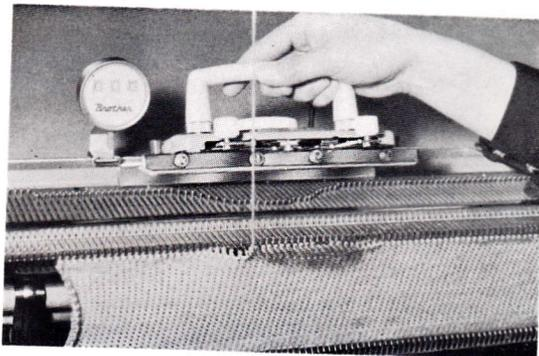

Fig. 38
- b. Grip the handle of the carriage and lift up the front foot of the carriage. (See Fig. 38)